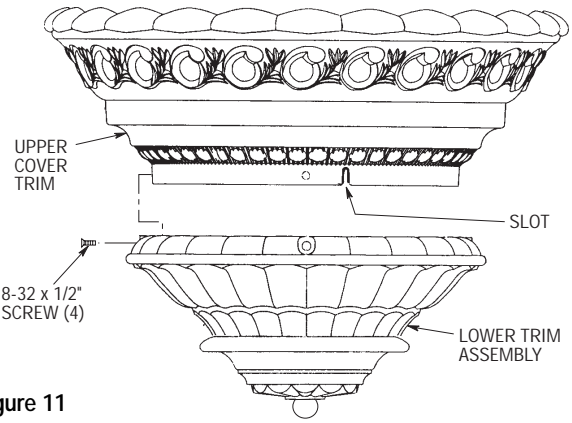

Figure 11
- 16. Position the lower trim assembly on the upper cover trim so that the tabs on the lower trim assembly slide into the slots in the upper cover trim (Figure 11). Then securely install four 8-32 x 1/2" screws (supplied).